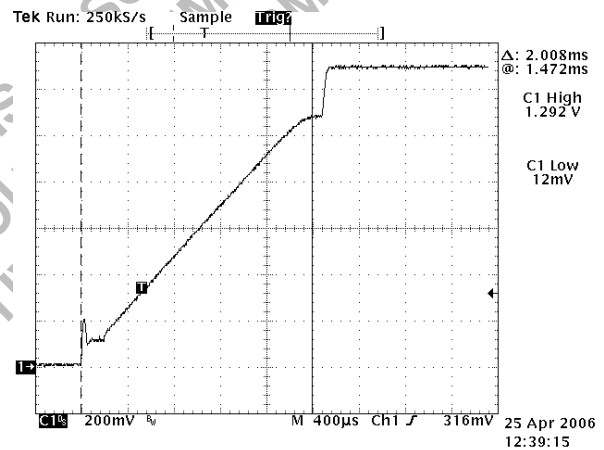

Figure 16. VR11 Startup
The controller supports two different startup routines. A legacy VR10 ramp to the initial VID code, or a VR11 Ramp to the 1.1 V VID code, with a pause to capture the VID code then resume ramping to target value based on an internal slew rate limit. See Figures 16 and 17. The controller is designed to regulate to the voltage on the SS pin until it reaches the internal DAC voltage. The soft-start cap sets the initial ramp rate using a typical 5.0 µA current. The typical value to use for the soft-start cap (SS), is typically set to 0.01 µF. This results in a ramp time to 1:1 V of 2.2 ms based on equation 1.